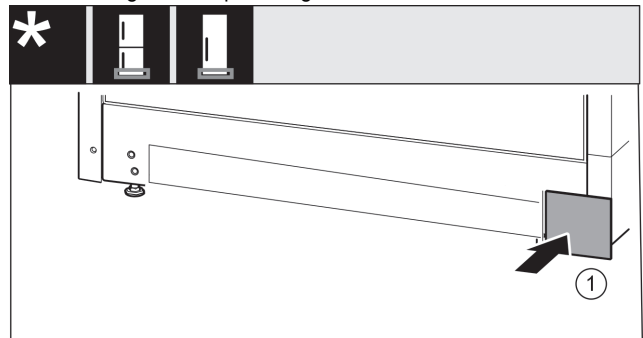

Fig. 48
- Re-attach the cover Fig. 48 (1) to the other side.